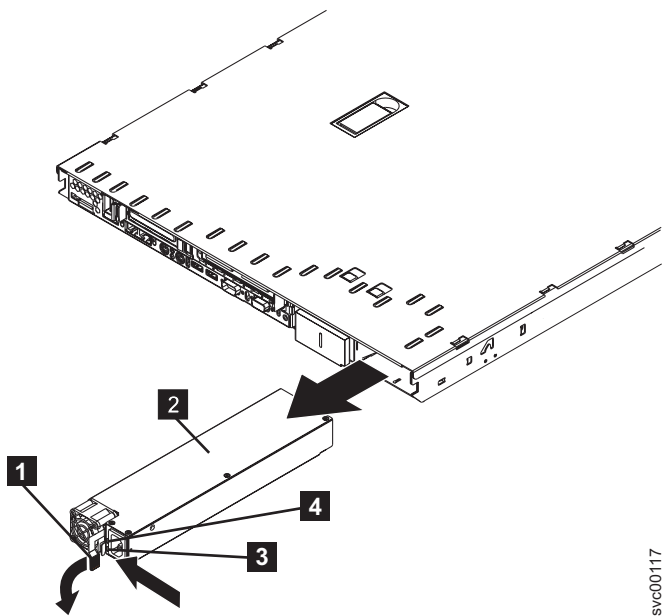

Figure 156. Removing the SAN Volume Controller 2145-8F2 power supply
4. From the rear of the node, as shown in Figure 156, push the orange release lever to the left and then push down on it to release the power-supply assembly. This will move the power supply back, slightly, for easy removal.